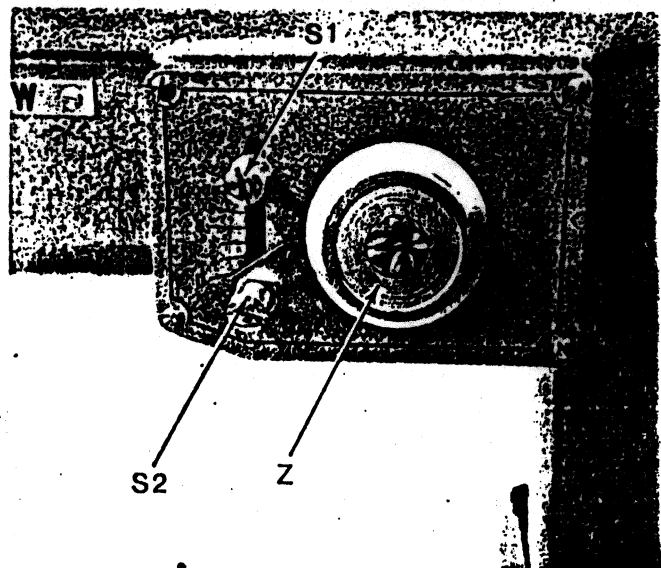

Fig. 12
Ascertain that stops (S1) and (S2) (Fig. 12) are set at both extreme ends of their slot. If not, use screwdriver to loosen them about one turn and then tighten them in their extreme positions. Turning the zigzag regulating knob (Z) clockwise as far as it will go, will cause the machine to sew with a straight stitch. Turning this knob counter-clockwise will produce a zigzag stitch. Same will become wider the more this knob is turned in counter-clockwise direction. The widest zigzag
Accepting that stops (S1) and (S2) (Fig. 12) are set at both extreme ends of their slot. If not, use screwdriver to loosen them about one turn and then tighten them in their extreme positions. Turning the zigzag regulating knob (Z) clockwise as far as it will go will cause the machine to sew with a straight stitch. Turning this knob counter-clockwise will produce a zigzag stitch. As the knob becomes wider, the more this knob is turned in a counter-clockwise direction, the wider the zigzag
(Fig. 12)
4. ADJUSTMENT OF UPPER FEED MECHANISM. (Ref. Fig. 12)